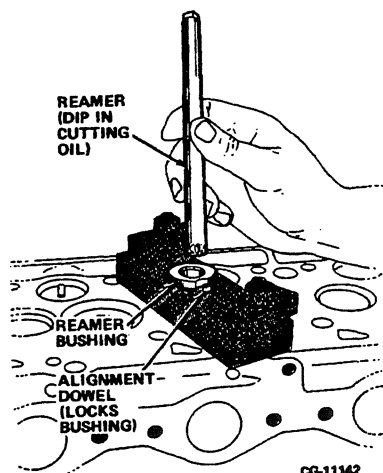

Figure 3.38. Set Up for Reaming Valve Guide Insert Bore in Cylinder Head
12. Insert the reamer bushing into the bushing plate. (See Note.) Refer to Figure 3.38.
13. Dip the first three inches of the reamer in cutting oil and install it into the reamer bushing. Refer to Figure 3.38.